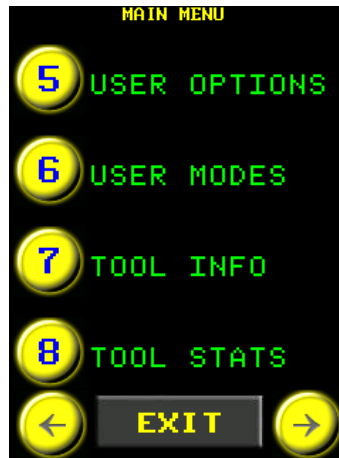

Figure 5.8-1: Main Menu
2. Select "User Modes" from the Main Menu (Figure 5.8-1).